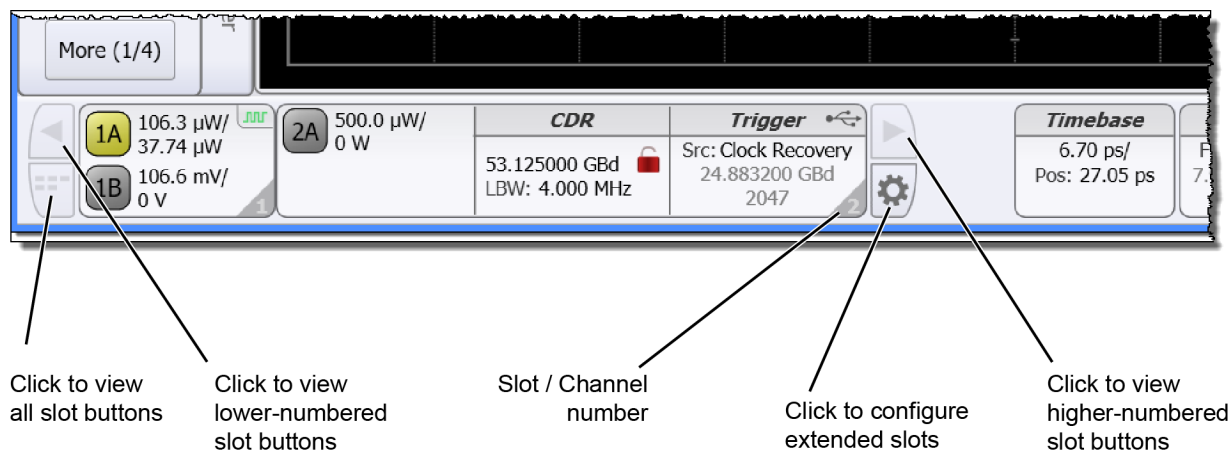

Figure 19. Slot buttons at bottom of FlexDCA application
- In FlexDCA's slot button tray, shown in *Figure 19* on page 50, locate the slot button for your installed DCA-M. Click the gear button if you want to re-assign the DCA-M to a different slot. This can also be accomplished remotely as shown in *Example 3. Perform eye measurement with N109X & N1076/7A* on page 99.